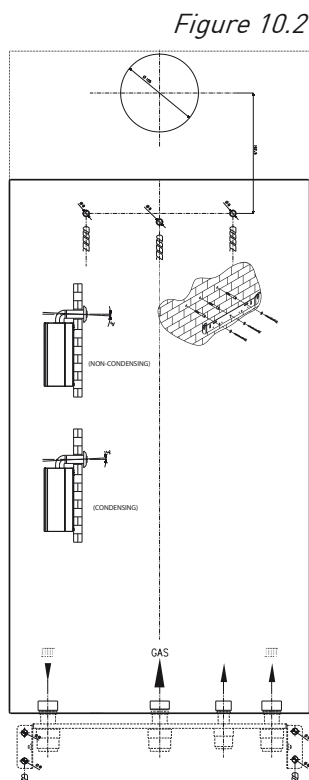

Figure 10.2
10.3 Position the supplied template on the wall, ensuring it is level both vertically and horizontally (*Figure 10.2*). Mark the boiler fixing jig (if required), wall bracket fixing positions and flue outlet position (rear flue only). For flue side exit from the boiler - Mark the horizontal flue centre line on the rear wall. Extend the horizontal line to the side wall allowing a 3° decline back towards the boiler, to enable condensate to drain back through the boiler. Mark the flue centre vertical line. (*Figure 10.3*).